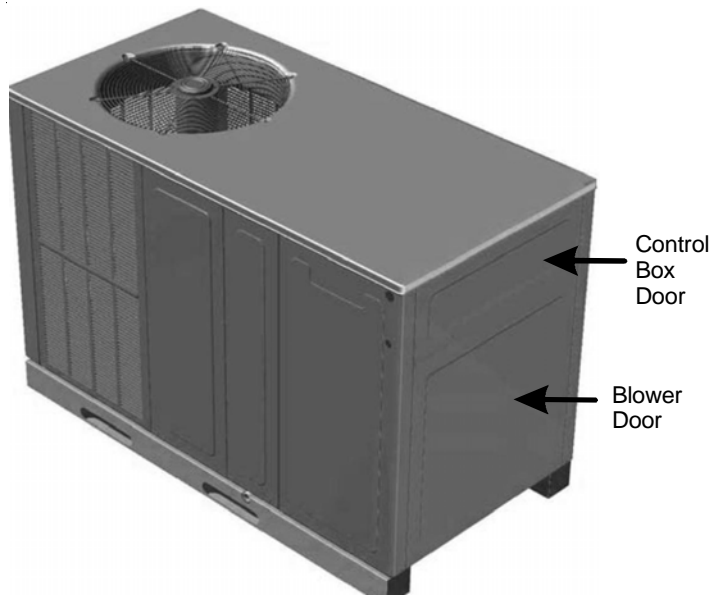

Figure 1
2. Remove control box door and blower door (Figure 1).